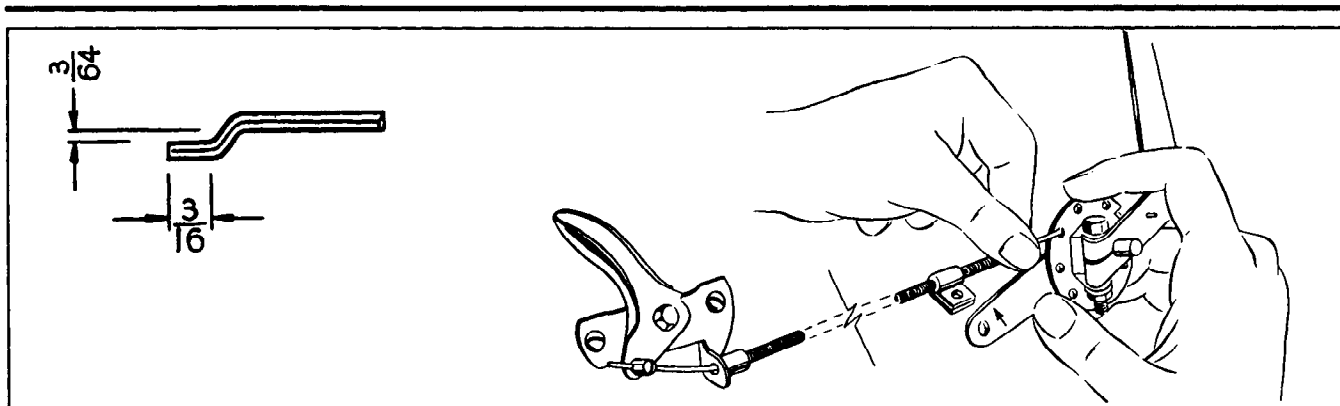

Figure 6-41. Installing Throttle.
In those applications where a throttle is to be connected to the engine, connect it as follows. Refer to Figure 6-41.
1. Bend the end of the throttle wire as shown in Figure 6-41.